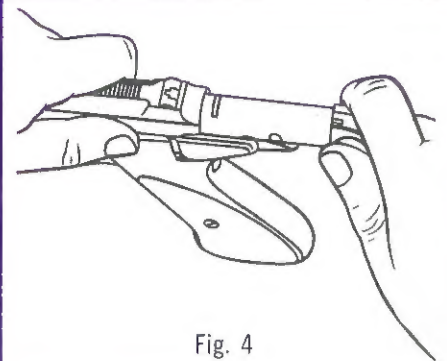

Fig. 4
5. Grasp the cocking handle; pull the tube assembly out of the rear of the frame. (Fig. 4)